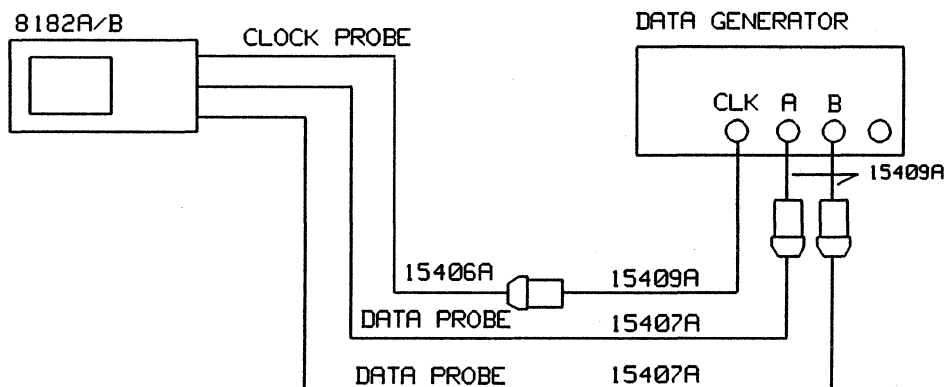

Figure 7-1. Test Setup for the Trigger Word and Operating Mode Test
8. Connect the equipment as shown in Figure 7-1 and press RUN.